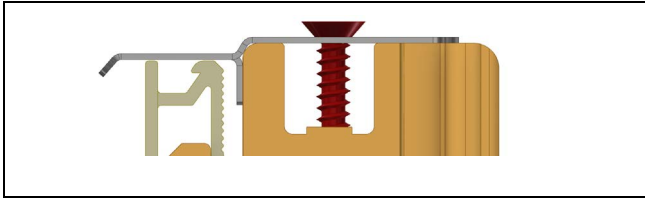

Figure 4
1. Bracket placement for the Inswing Door, See Figure 4.